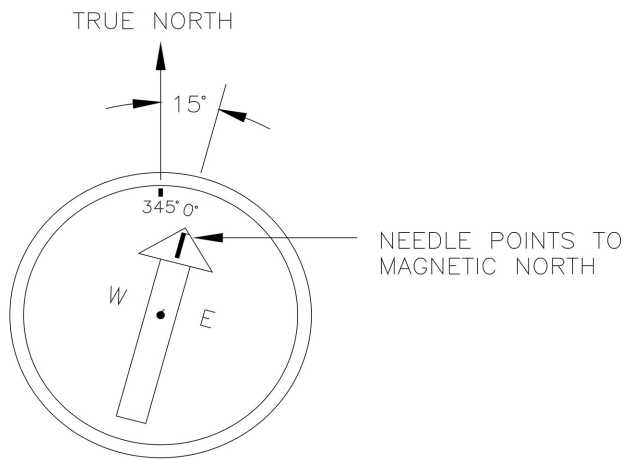
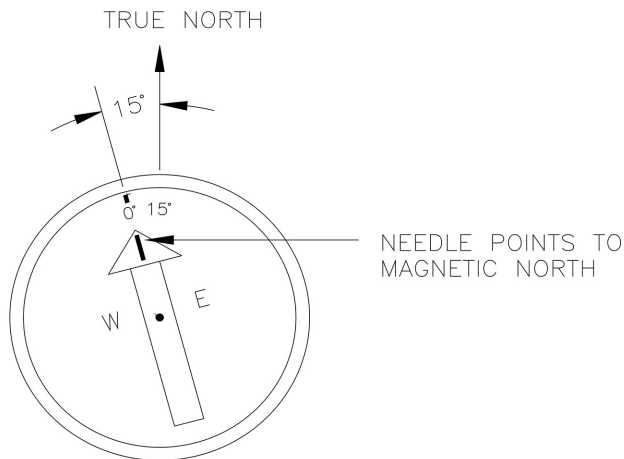

Figure A-2. Declination angles east of true north are subtracted from 360 to get true north
Figure A-3. Declination angles west of true north are subtracted from 0 to get true north
Declination angles east of true north are reported as positive values and are subtracted from 360 (0) degrees to get true north as shown in Figure A-2 (p. 74). Declination angles west of true north are reported as negative values and are subtracted from 0 (360) degrees to get true north as shown in Figure A-3 (p. 74). Note that when a negative number is subtracted from a positive number, the resulting arithmetic operation is addition.